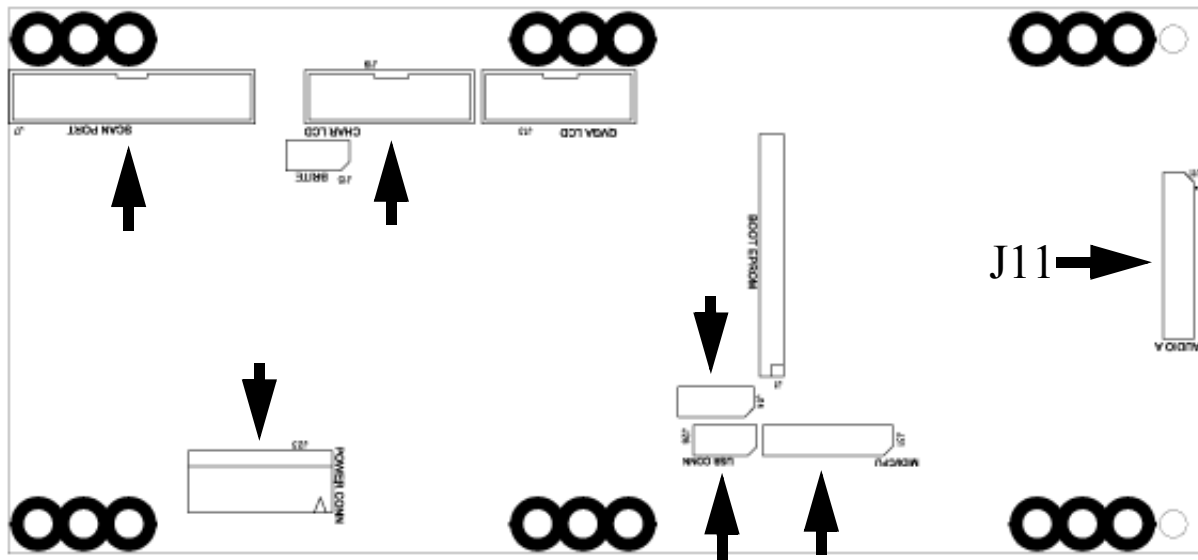
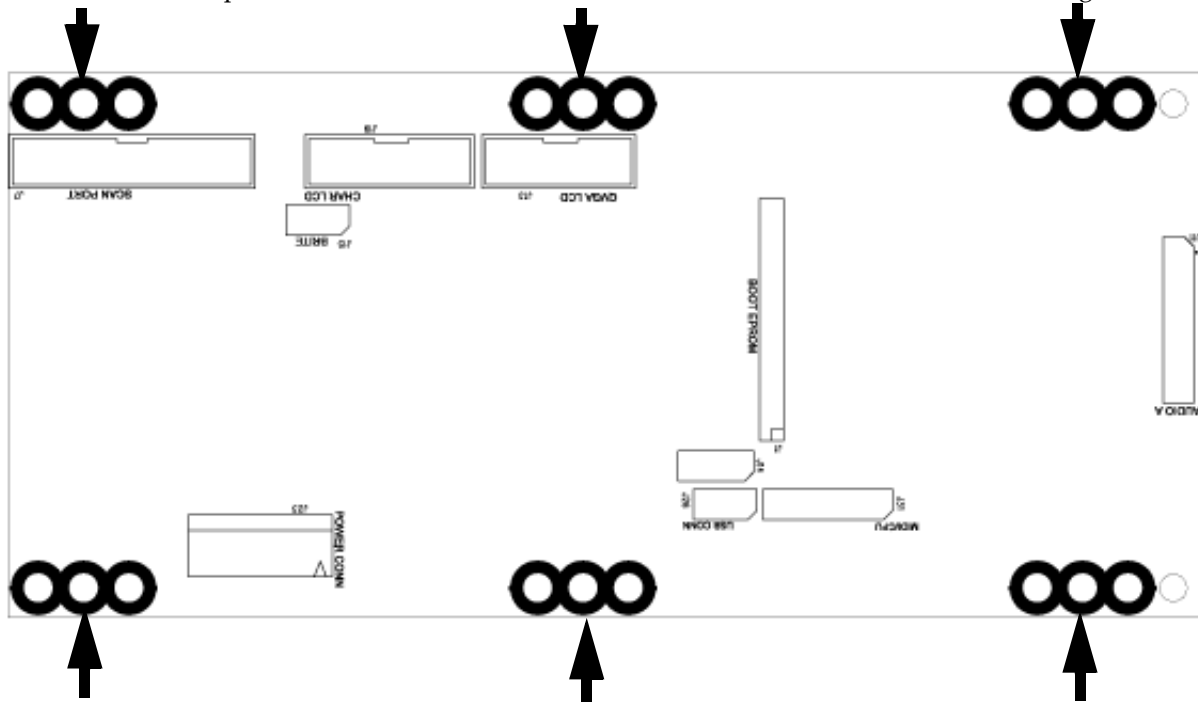

Figure 3-4 Engine Board Connectors Locations
Figure 3-5 Engine Board Screw Locations
1. Unplug the 7 cables that are attached to the Engine Board (see Figure 3-4 below for cable connector locations.) The cable plugged into connector J11 (see below) is held in place by a wire tie. After disconnecting this cable, carefully move this cable around the wire tie.
2. Remove the 6 screws attaching the Engine Board to the top enclosure (see Figure 3-5 below for the Engine Board screw locations.) One of the screws (bottom right .Figure 3-5, below) holds a wire tie used to secure one of the cables. Make a note of the wire ties position, and be sure to save this wire tie for later reinstallation of the Engine Board.
2. Replace the 6 screws that attach the Engine Board to the top enclosure (see Figure 3-5 for the Engine Board screw locations.) Make sure to reinstall the wire tie which is held in place by the bottom right screw in Figure 3-5.
3. Plug all cables back into the Engine Board. There are 5 cables in the bundle attached to the Front Panel Board, as well as two ribbon cables attached to the Front Panel Board. See Figure 3-4 (above) for cable connector locations. The cable plugged into connector J11 (see Figure 3-4) must be held in place by the wire tie attached to the bottom right screw in Figure 3-5. Carefully secure this cable underneath the wire tie.